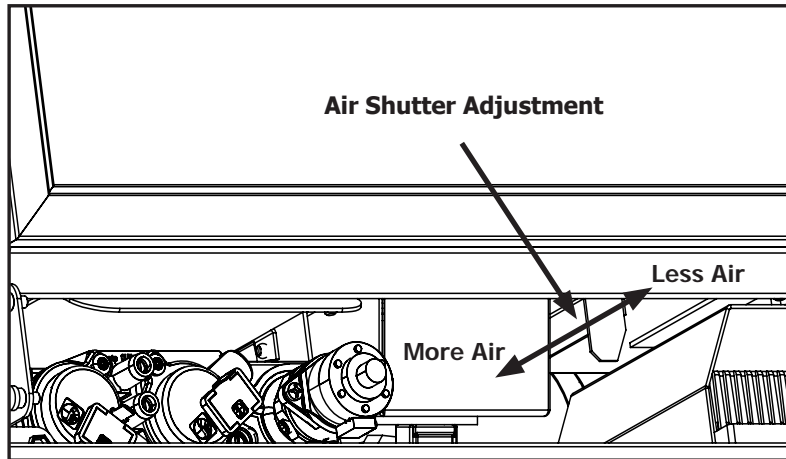

Figure 4: Air Shutter Lever
The air shutter adjustment lever is on the right hand side of the venturi box (see Figure 4).
Install the four (4) supplied AA batteries into the IFC battery holder (see Battery Backup section). Install the three (3) supplied AAA batteries into the back of the remote transmitter. Press the reset button on the IFC (see Figure 4) and listen for three (3) beeps. Press the ON key on the remote transmitter and listen for another beep sequence. Once the command has been accepted then the system is initialized and ready for use.